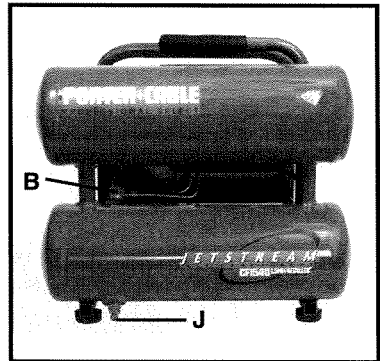

Fig. 2
Check Valve (B) Fig. 2: When the air compressor is operating, the check valve is "open", allowing compressed air to enter the air tank. When the air compressor reaches "cut-out" pressure, the check valve "closes", allowing air pressure to remain inside the air tank.
Drain Valve (J) Fig. 2: The drain valve is located at the base of the lower air tank and is used to drain condensation at the end of each use.
- c. Turn the drain valve (J) Fig. 2, opening it fully, to prevent air pressure build-up in the tank.